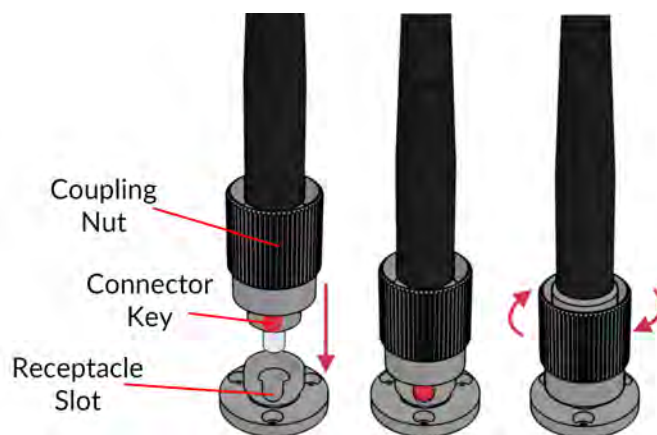

Figure 2.3: FC connector, Fiber Installation
- b) With an FC connector, the connector key must be oriented to enter within the receptacle slot to ensure proper connection (Fig. 2.3).